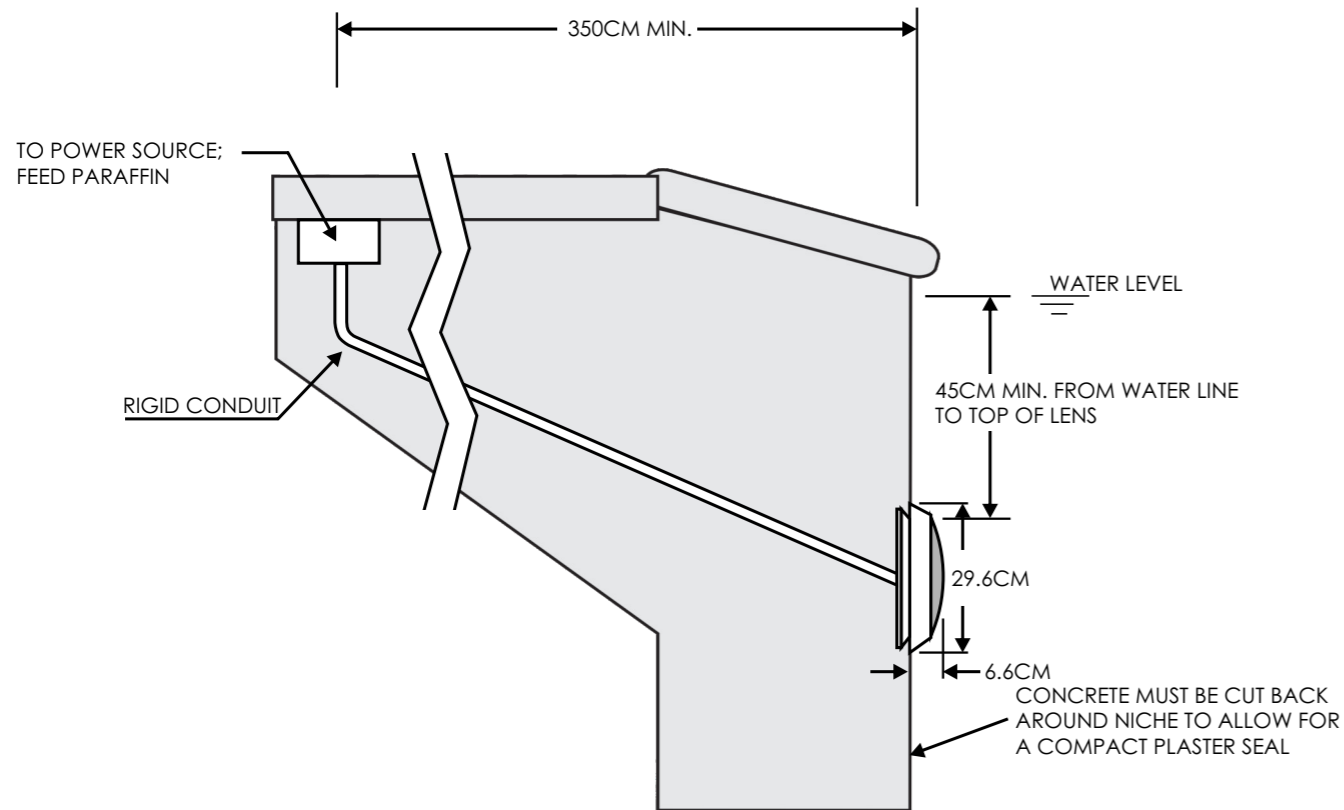

Figure 1.
A) Preparatory steps which must be completed by the electrician before light is installed, see Figure 1.
a) The junction box, or the low voltage transformer for 12 volt Underwater Light model is to be located at least 350cm from the edge of the pool, see Figure 1.
e) The mounting bracket must be properly installed so that the top edge of the Underwater Light lens is at least 45cm below the surface of the water in the pool, see Figure 1.
- 1) Locate position on a vertical wall where light is to be installed. The top of the light lens must be 45cm below normal water level, and maximum depth for luminaire is 2.5m, see Figure 1.